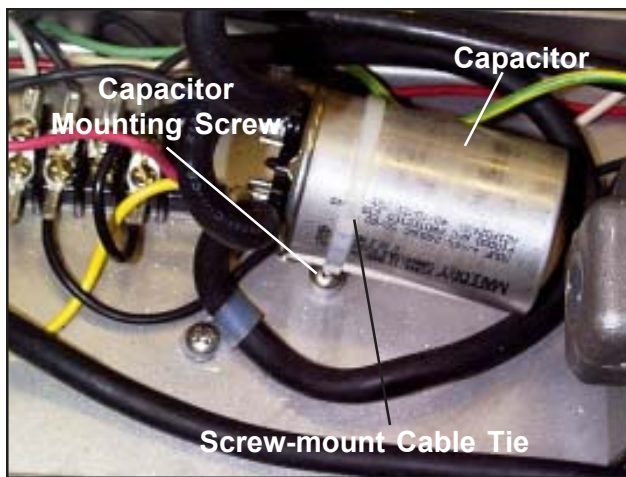

Figure 44. Capacitor Mounting
8. With a Phillips screwdriver, remove the capacitor mounting screw (Figure 44).
2. Attach an 8-in. screw-mount cable tie to the capacitor as shown in Figures 44 and 45 and snip off the loose end.